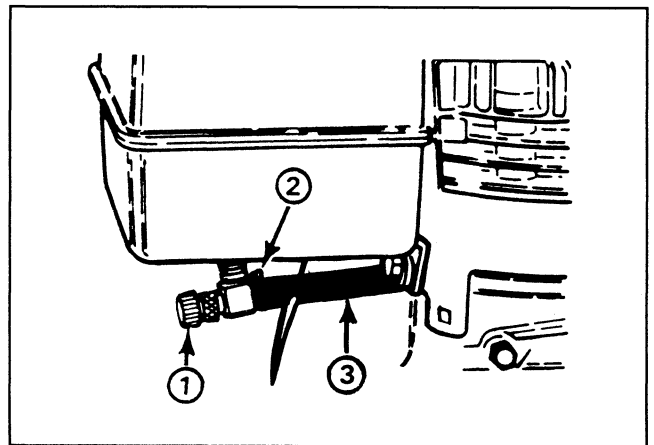

Figure 24
1. Close fuel shut-off valve located under fuel tank (Fig. 24).
3. Loosen hose clamps securing fuel line to valve and slide line off valve (Fig. 24).